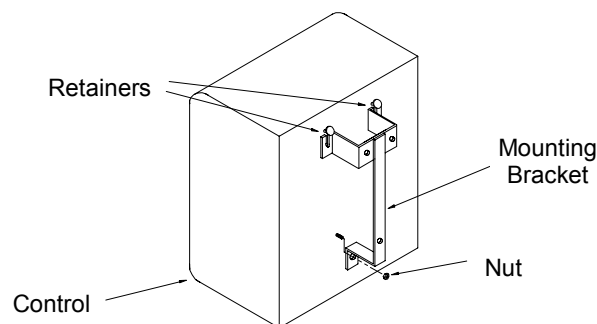

Figure 4
5. Secure the manifold control in place by sliding the round retainers on the back of the cabinet into the slots on the bracket. Replace the nut on the bolt which protrudes from the case and tighten lightly. This bolt only stabilizes the bottom of the unit and is not load-bearing. (Figure 4)